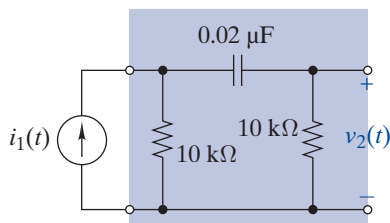

FIGURE P11-39
- 11-39 The circuit in Figure P11-39 is in the steady state with $i_1(t) = 10 \cos 5000t$ mA.